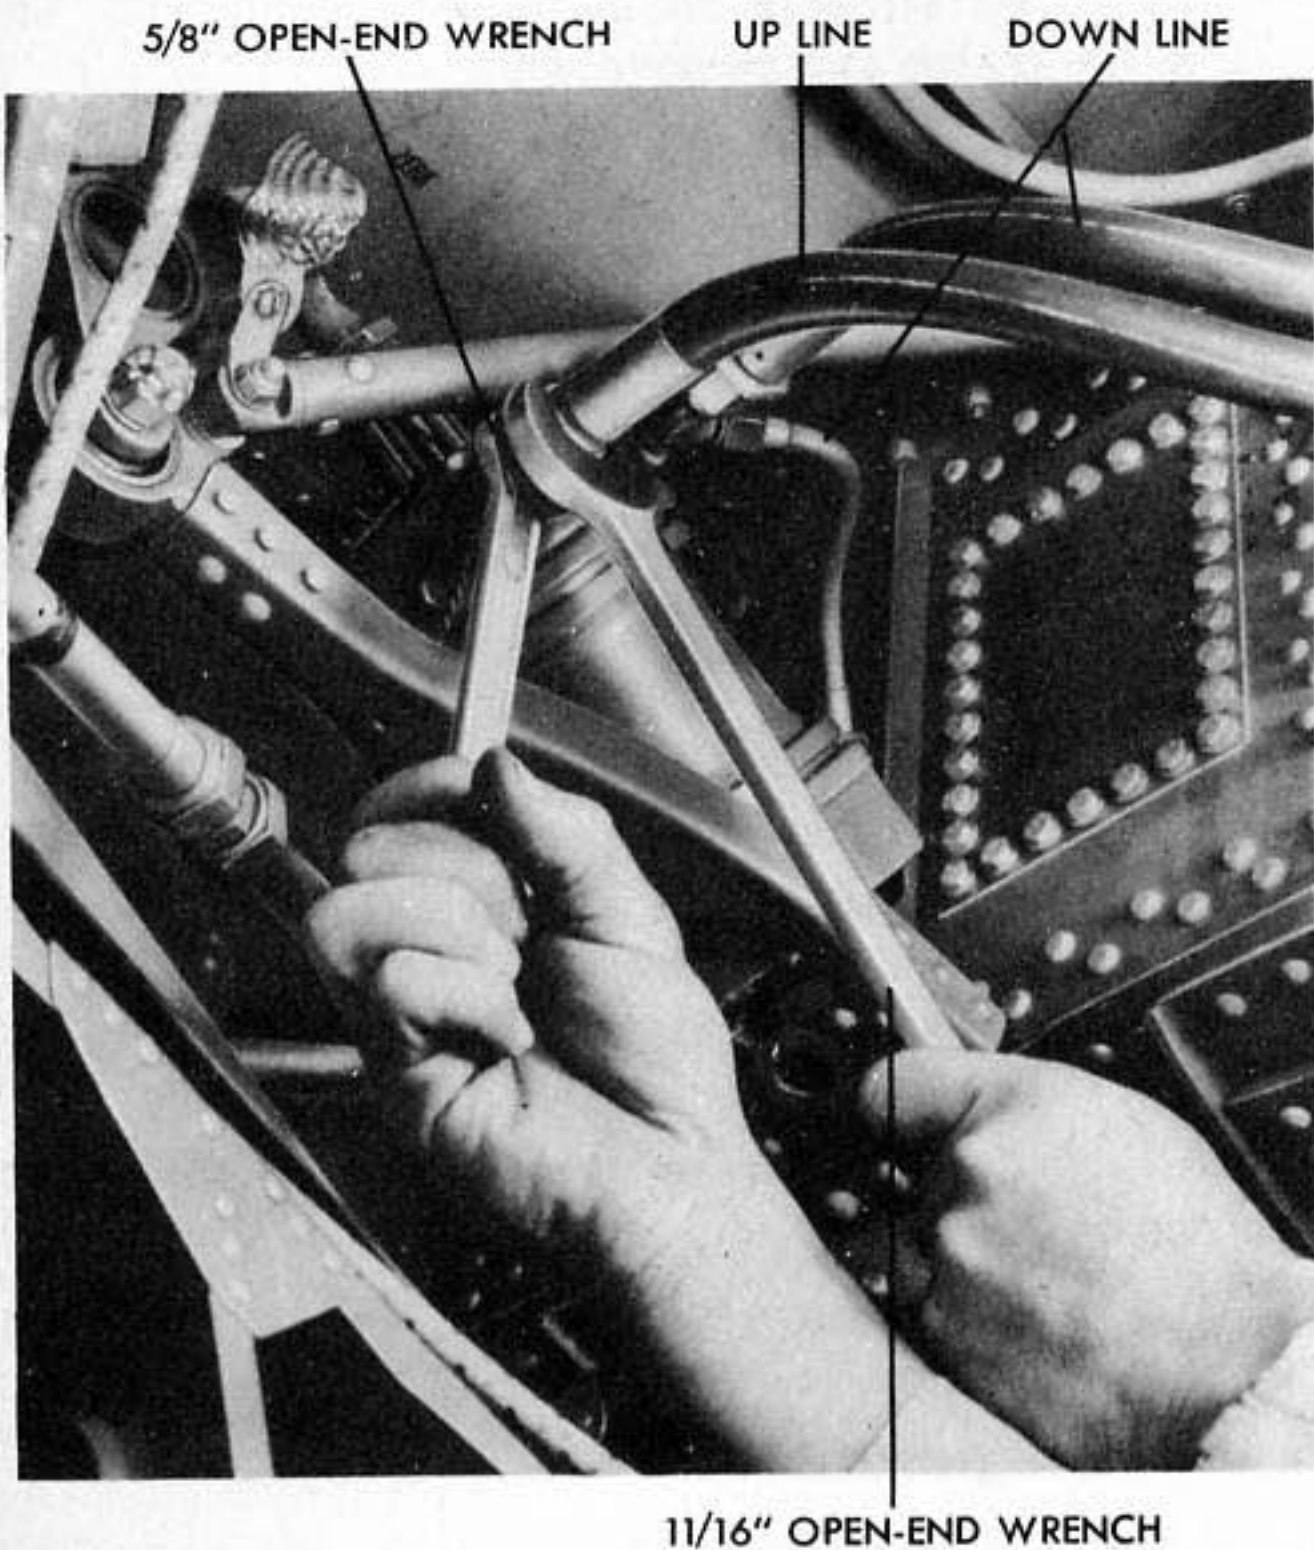

Figure 209 - REMOVING OUTBOARD WING FLAP ACTUATING STRUT
- (25) REMOVAL OF OUTBOARD AND INBOARD WING FLAP ACTUATING STRUTS. (See figure 209.)